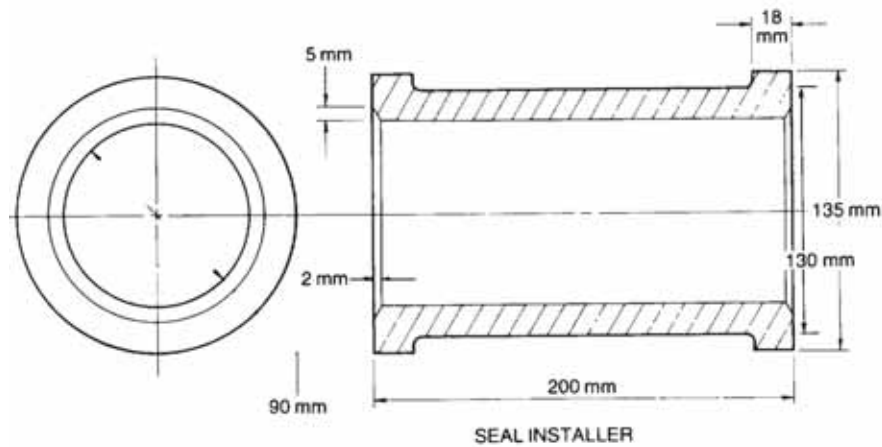

Figure 1 Special Tools
14. Special tools required to carry out maintenance tasks on the equipment are shown in Figure 1 and detailed in Table 1. Item 2 has to be fabricated.